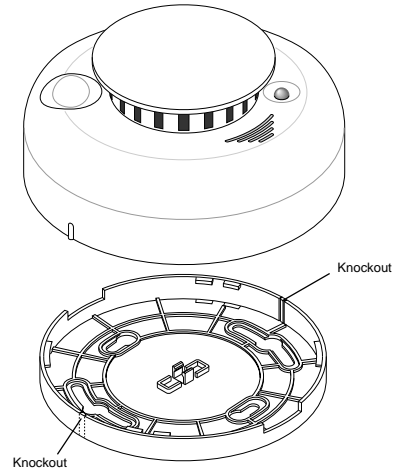

Figure 3 - Base Lock Knockouts
1. If you are using the alarm/base lock, remove the two knockouts on the mounting base. See Figure 3.